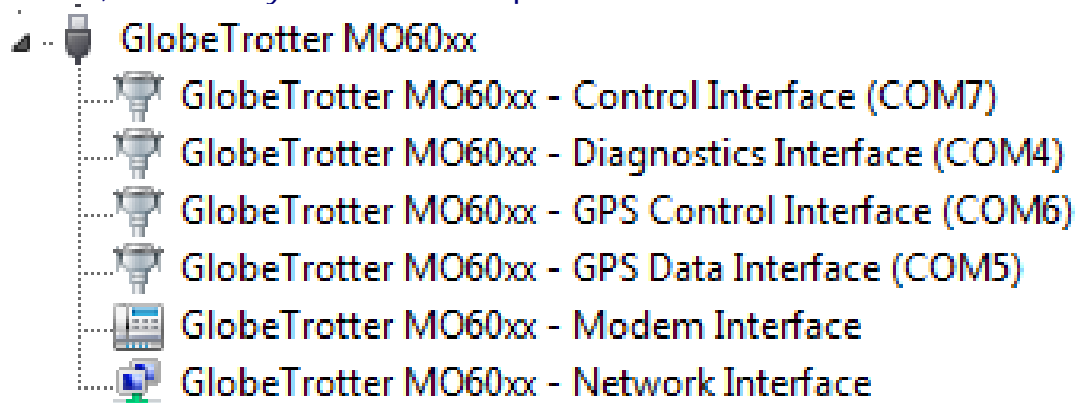

Figure 26: Ports occupied by the GTM60x
(10) On successful installation of all drivers, the device manager will show the following typical installed devices. Please configure the device manager by selecting “View”, “Devices by connection”. Expand the tree to show the USB devices (See Figure 26).